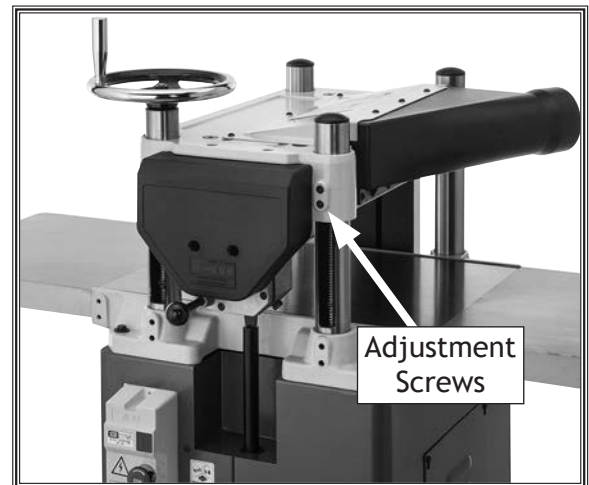

Figure 54. Location of headstock micro-adjustment screws (one side shown only).
9. If necessary, micro-adjust headstock position by loosening cap screws shown in **Figure 54** and raising or lowering headstock until it is properly aligned with cutterhead.